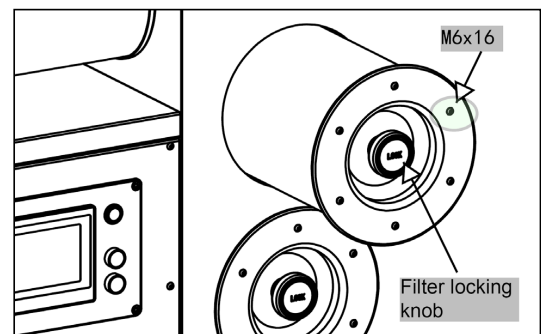

Figure 15
6.3 Cleaning or changing the filters (figure 15)
2. As shown in figure 15, turn the locking knob and pull out the filter. Use compressed air to clean the dust on the outside of the filter.
1. As shown in figure 15, turn the filter locking knob and pull out the filter.
3. As shown in figure 15, mount the new filter, screw the 6-M6x16 screws back into place and turn and firmly lock the knob.